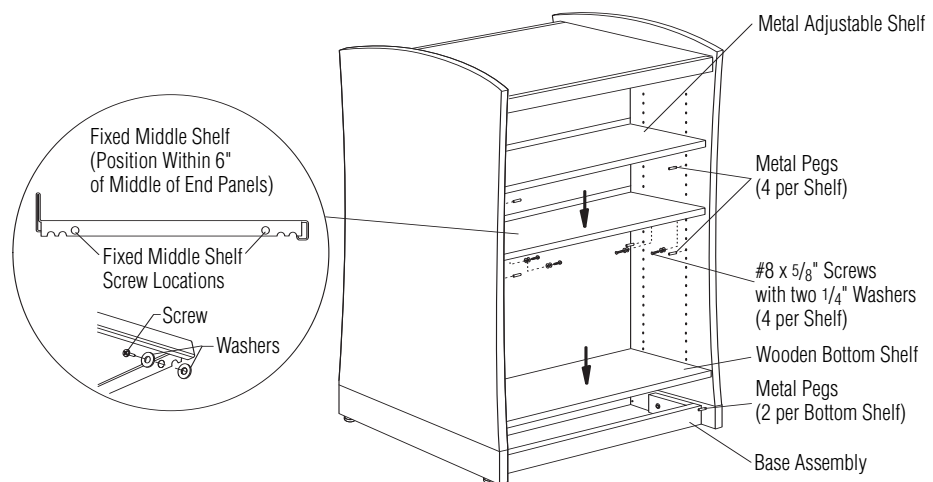

Figure 6
5. Insert four 4 1/2" hex head bolts with a lock washer and a flat washer from the inside of the top assembly through the adder panel and previously installed top assembly (Figure 6). Tighten.
6. Position the base assemblies for the adder unit by aligning the holes with the holes in the adder panel. Insert four 4 1/2" hex head bolts with a lock washer and a flat washer from the inside of the base assemblies through the adder panel and previously installed base assemblies (Figure 6). Tighten.
10. Bottom shelf. Insert (4) metal pegs into pre-drilled holes just above the base assembly. Lay bottom shelf with routed side down routed grooves rest on the pegs and align onto metal pegs. Repeat for each unit. (Figure 6).
11. Set each shelf onto the metal pegs with notched side down. Repeat for each shelf (Figure 6 and Shelf Detail).